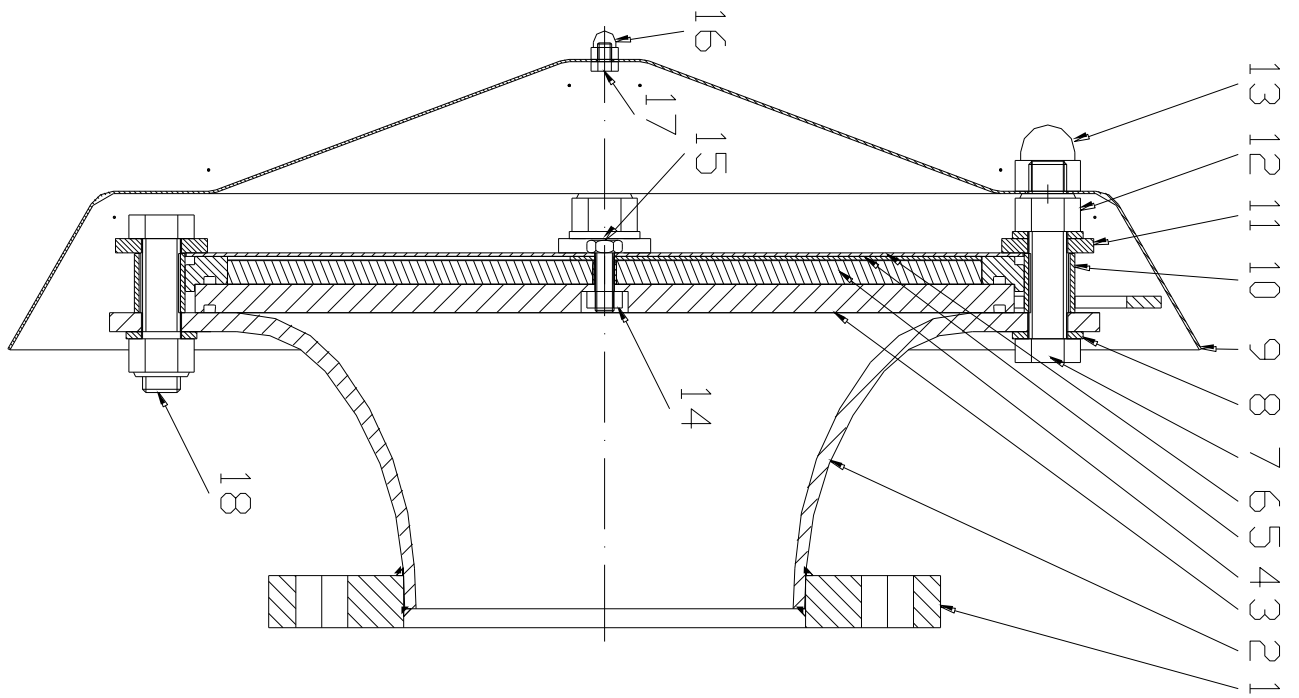

Fig. 1
(See fig.1)
(See figure 1)
- Spare part no. (Please refer to **fig. 1** for items)